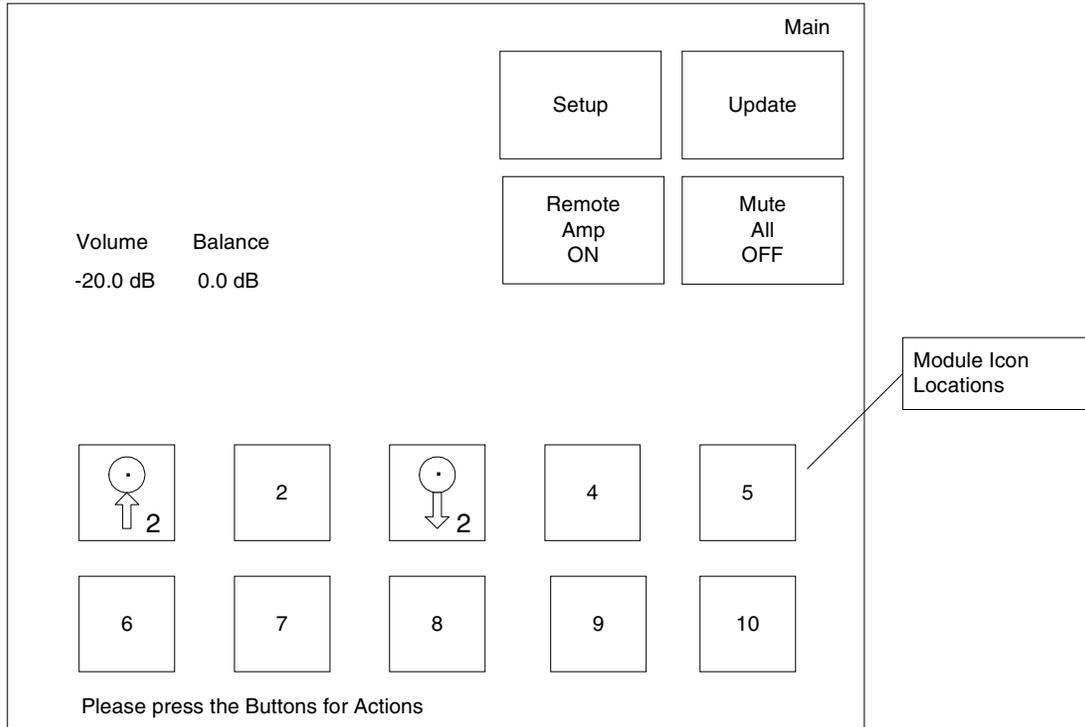

Figure 8: Spirito Main Screen Icons
- This button initially appears with **Remote Amp On** as the button nomenclature (refer to figure 8 above). When this button is selected, the nomenclature will toggle from **Remote Amp On** to **Remote Amp Off**.
- This button initially appears with **Mute All OFF** as the displayed button nomenclature (refer to figure 8 above). When this button is selected, the nomenclature will toggle from **Mute All OFF** and **Mute All ON**.
- Board icons occupy the lower half of the main screen. When the Spirito is turned on the processor will poll each of the ten card slots. When a module is found an icon for the board type is displayed on the main screen, *refer to figure 8*. Selecting a board icon will display a menu for that module. Selecting the input module icon brings you to the following screen.